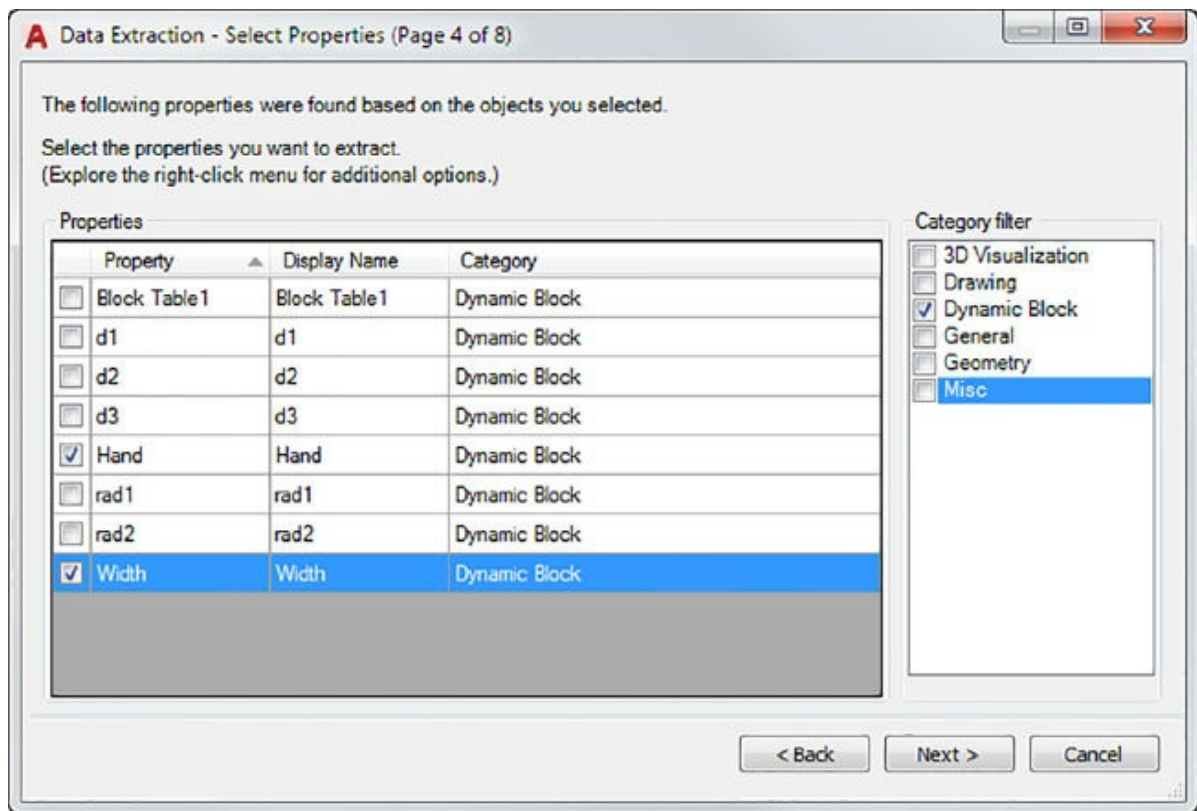

FIGURE 17.37 Set up the Select Properties screen to look like this.
7. On the Select Properties screen, remove the check mark from all but the Dynamic Block option in the right column, and make sure the Hand and Width options in the left column are the only ones selected (see Figure 17.37).